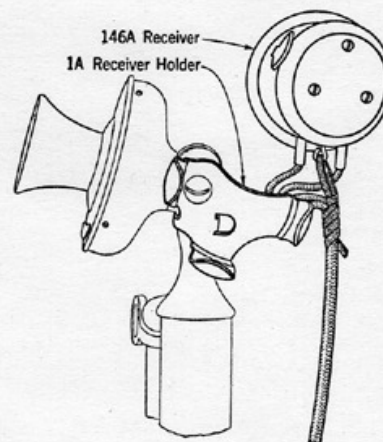

Fig. 2
3.01 The 1A receiver holder should be installed on desk stands by using the same bolt and screw employed for fastening the transmitter to the desk stand as shown in Fig. 2.